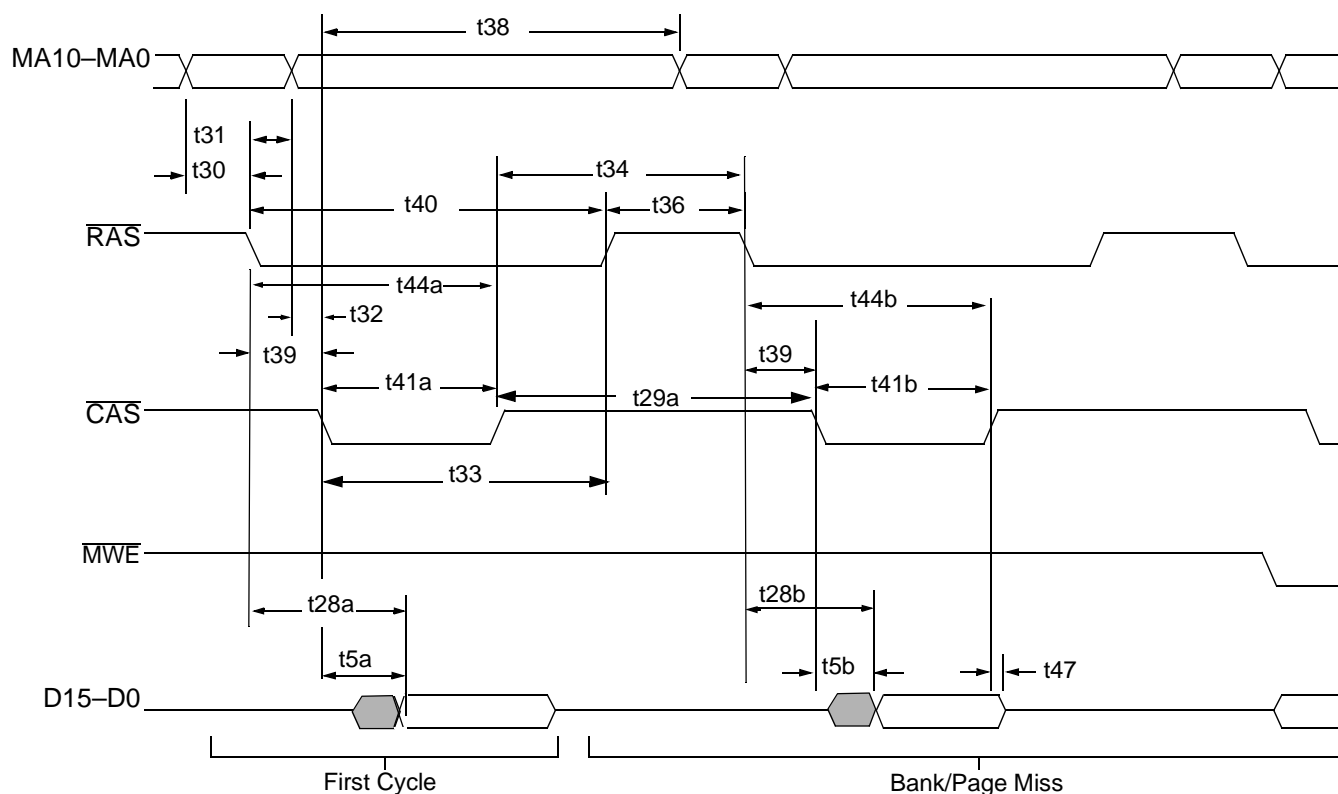

Figure 38. DRAM First Cycle and Bank/Page Miss (Read Cycles)
**Table 53. DRAM First Cycle Read Access (See Figure 38)**
**Table 54. DRAM Bank/Page Miss Read Cycles (See Figure 38)**
Table 54. DRAM Bank/Page Miss Read Cycles (See Figure 38) (Continued)